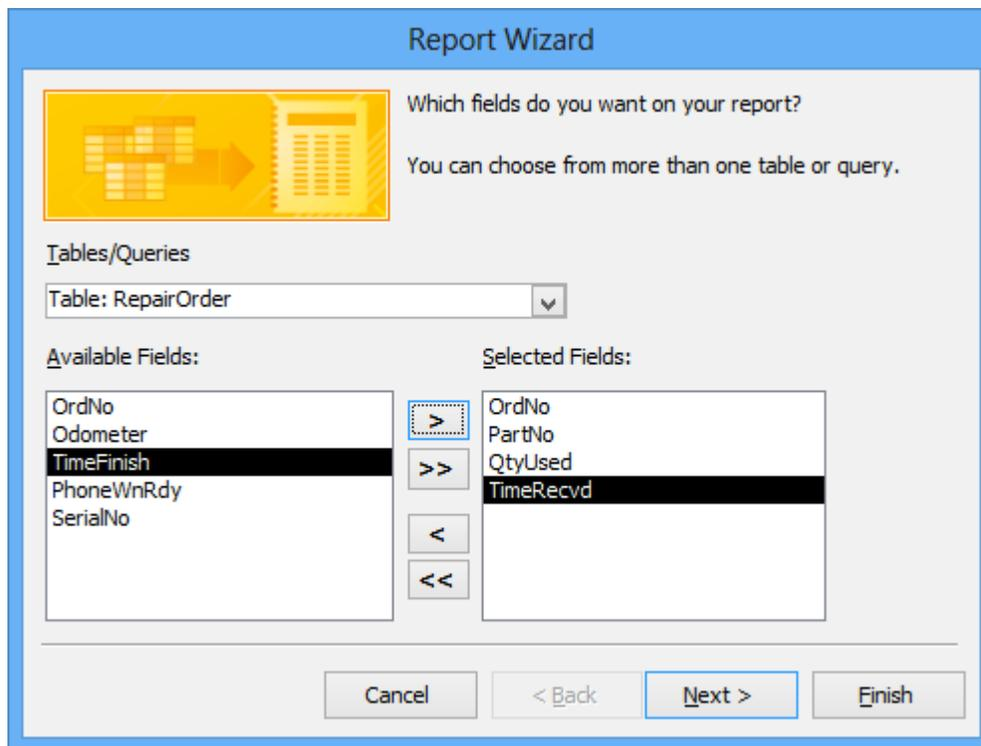

Figure 1: Fields in the Report
- From the *RepairOrder* table click the single > button to move the *TimeRecvd* field to the right side (Selected Fields). Note, the Selected Fields window will contain fields from both the *PartsUsed* table and the *RepairOrder* table (Figure 1). Click the **Next >** button when finished.